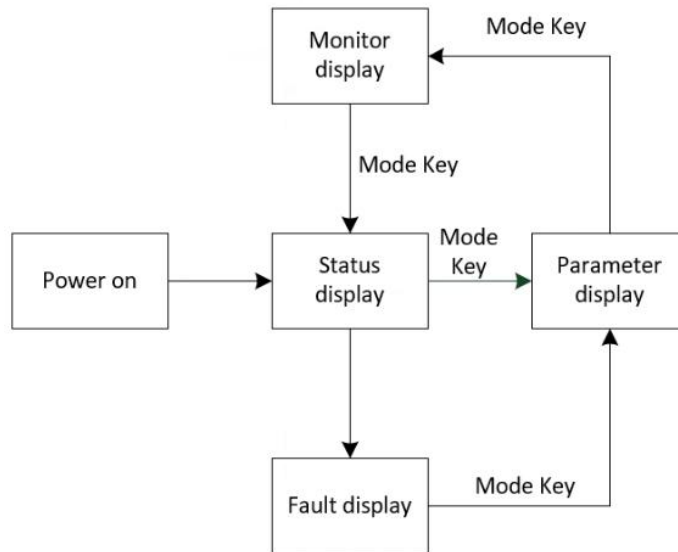

Figure 5-2 Switching schema of each display type of panel
- ① Power on, the panel display of the servo drive enters [status display mode]
- ② When an operation failure occurs, the panel immediately switches to the bit failure display mode, and all the digital tubes flash synchronously, press the "mode" key to switch to the parameter display mode.
- ③ Press the "Mode" key to switch between different display modes. The switching conditions are shown in Figure 5-2.